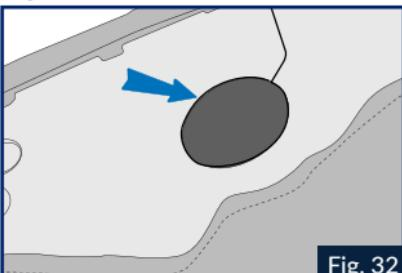
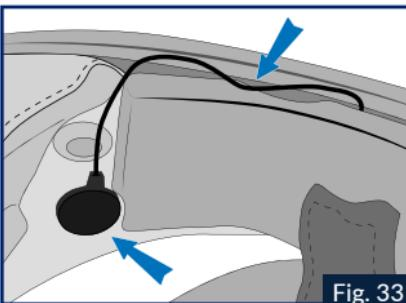

Fig. 32
Fig. 33
-ding (cheek pads and liner) according to the description of disassembly of the textile on page 10. Then remove the 2 side covers on either side of the carburettor gasket. (Fig. 32).
2 - Insert the left and right speakers of the **SENA FOR SHARK (Bluetooth or Mesh)** system into the earphone housings, passing their cable under the cover covering the polystyrene cheeks (use the vertical slot on the cheek cover for this purpose) (Fig 32). In order to allow the speakers to be held properly, do not forget to affix the small Velcro pieces provided in the box of your **SENA FOR SHARK (Bluetooth or Mesh)** system (Fig 33)
4 - Place the microphone and attach it using the Velcro part provided, and insert the microphone shaft into the cover of the right polystyrene cheek, using the groove provided. Connect the extension cable supplied with the **SENA FOR SHARK (Bluetooth or Mesh)** system (Fig. 33).